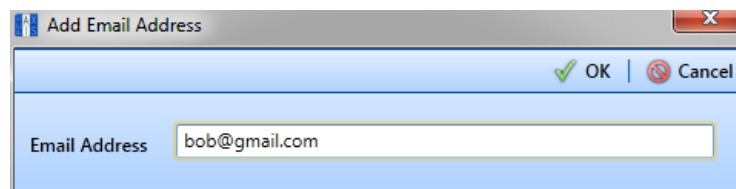

Figure 12-2. Add Email Address
- a Click  **Add Email** to open the *Add Email Address* dialog box (Figure 12-2).